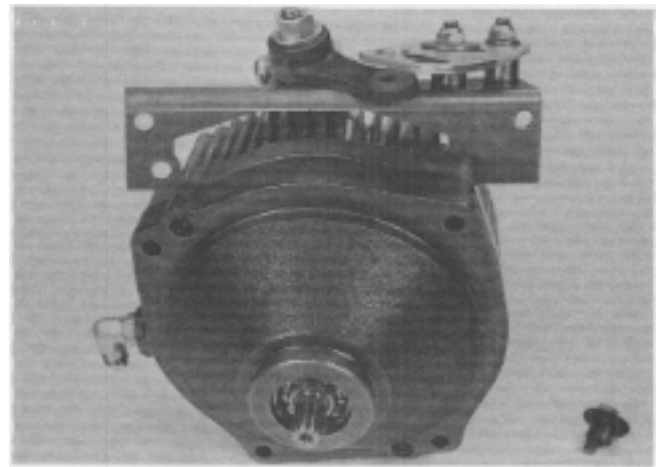

FIG. 28. Cam Plate and Bracket Removal
- Remove lock bolt and eccentric from control arm. Work cam plate and bracket out from under arm as shown in Fig. 28.